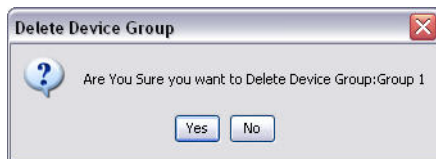

FIG. 97
- c. Use the mouse to select the group folder on the Matrix System side of the screen again. Click the Delete Group button. The Delete Device Group prompt displays asking if you are sure you want to delete the Device Group: named "X" (in FIG. 97 below, the folder is named Group 1). Click the Yes to delete the Group folder or No if you do not want to delete it.